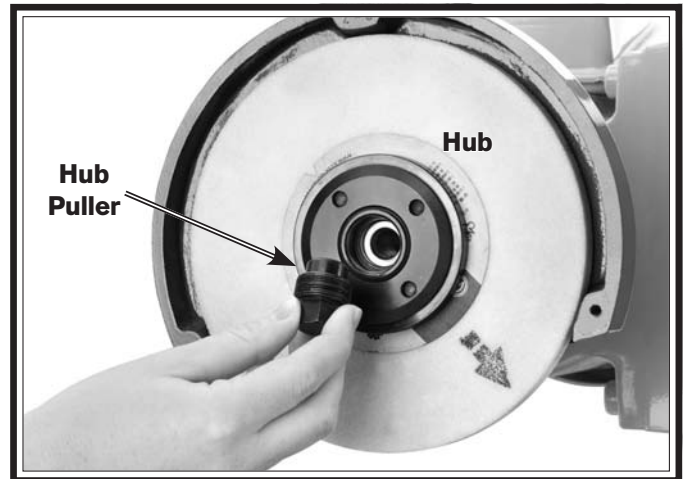

Figure 25. Hub puller.
7. Oil the threads and thread the hub puller (**Figure 25**) into the hub until it stops.